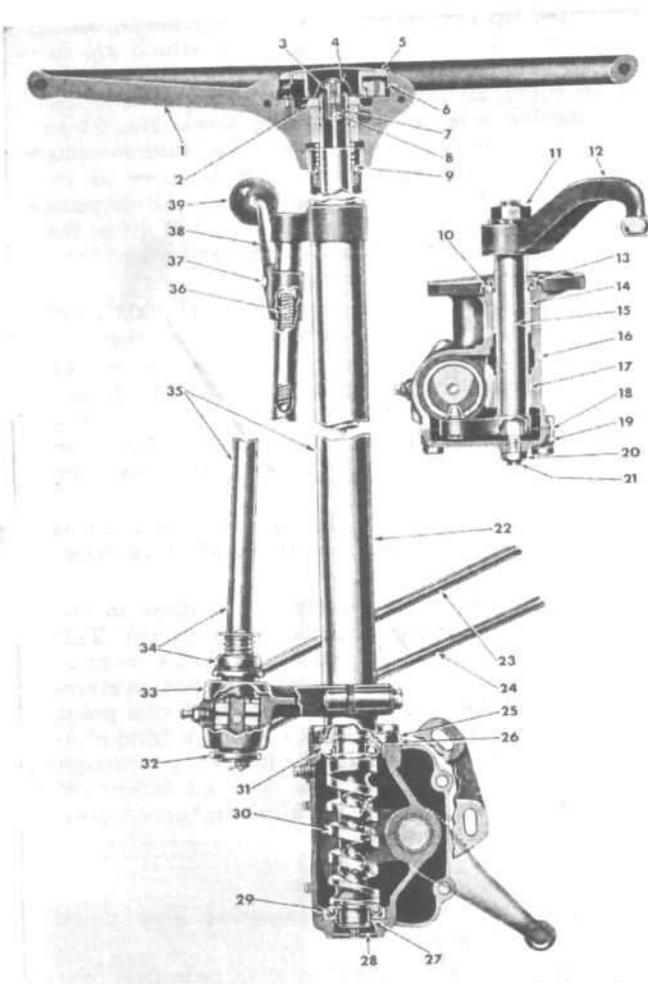

FIG. 278—STEERING GEAR
The steering gear is the cam and lever, variable ratio type illustrated in Fig. 278.
- a. Remove the steering gear arm (Fig. 278, No. 12) with a puller.
- b. Loosen the lock nut and unscrew the adjusting screw (21) two turns.
- c. Remove the side cover screws and washers. Remove the side cover (19) with its gasket.
- d. Remove the lever shaft (15).
- e. Remove the upper cover plate screws. Remove the cover (25), cam, and wheel tube and bearing assembly from the housing.
Assemble cam, wheel tube and bearing assembly in housing, seating the lower bearing ball cup, No. 29, Fig. 278, in the housing.